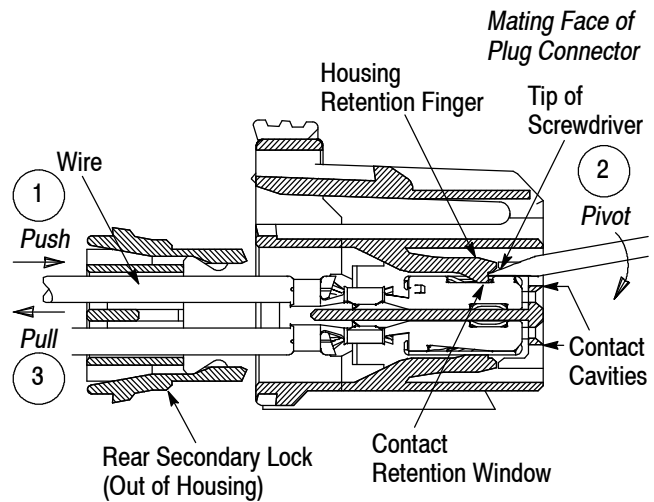

Figure 8
6. From the mating face of the plug connector, insert the tip of the screwdriver into the contact cavity of the contact to be removed. Refer to Figure 8.
8. Pivot the screwdriver toward the other row of contact cavities to lift the housing retention finger away from the contact retention window. Refer to Figure 8. While holding the screwdriver in position, pull the wire until the contact is removed from the housing.